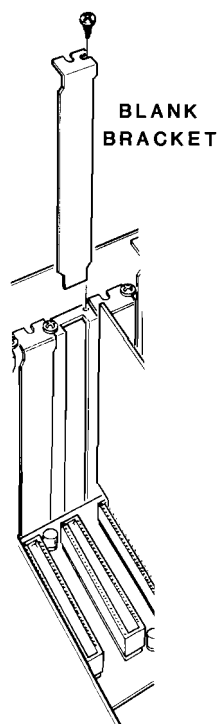

Figure 2.15. Blank Bracket
- Remove and save the blank bracket screw (Figure 2.15) from the blank bracket and then remove and discard the blank bracket.